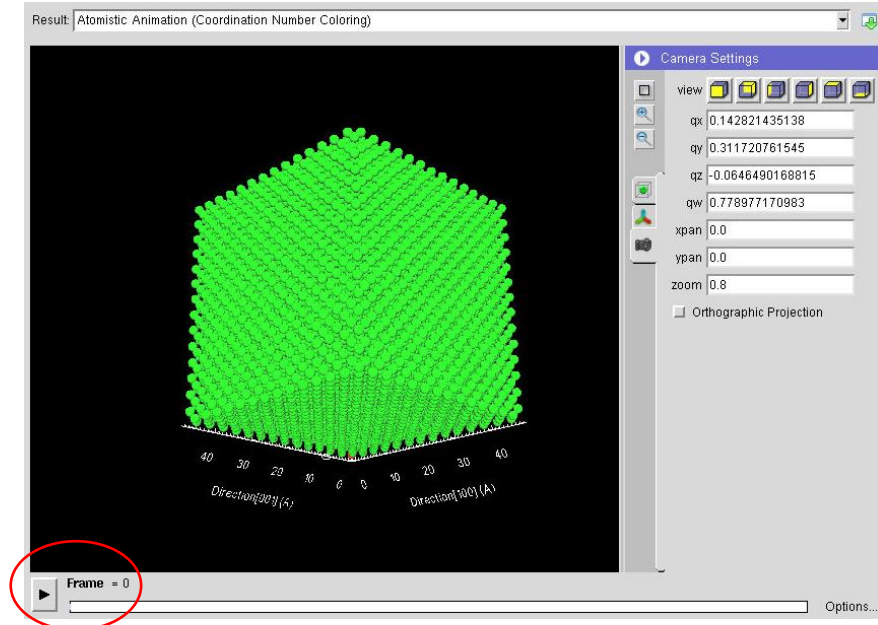

Figure 3. Atomistic animation example.
3. The “Atomistic animation” outputs show the atom positions over time (temperature) for the simulation. Figure 3 highlights this output’s slider to view different times. For each time you can zoom and rotate the structure; Figure 3 also shows the options menu to reset views and zoom. There are two versions of the atomistic animation: the first includes all atoms and the second includes only the atoms that are considered defects (i.e., meaning that they have different neighbors than the original crystal structure, in this case FCC). In these outputs, atoms that are colored **green** are FCC, **light blue** are BCC, **yellow** are HCP, and **dark blue** are unidentified crystal structure (e.g. atoms that are at the surface).